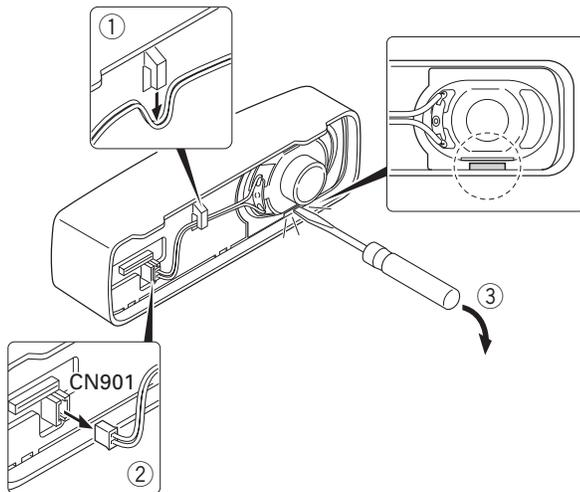

Fig. 2-1
1. Remove the speaker lead from the holder hook. ( ① )
2. Remove the speaker connector from the display unit connector (CN901). ( ② )
3. When removing the speaker hardware fixture, insert a flat-head screwdriver at the position shown in Figure 2-1 and tilt it in the direction shown by the arrow. ( ③ )
4. To remove the holder, insert a flat-head screwdriver into tab of the holder and tilt it in the direction shown by the arrow. ( ④ )